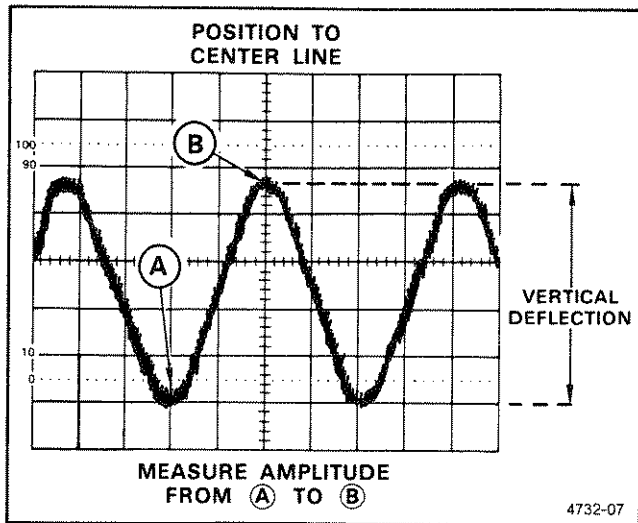

Figure 2-10. Peak-to-peak waveform voltage.
6. Vertically position the display so that the negative peak of the waveform coincides with one of the horizontal graticule lines (see Figure 2-10, Point A).
7. Horizontally position the display so that one of the positive peaks coincides with the center vertical graticule line (see Figure 2-10, Point B).
8. Measure the vertical deflection from peak to peak (see Figure 2-10, Point A to Point B).
EXAMPLE: The measured peak-to-peak vertical deflection is 4.6 divisions (see Figure 2-10) using a 10X attenuator probe with the VOLTS/DIV switch set to 5 V (at 10X PROBE setting).